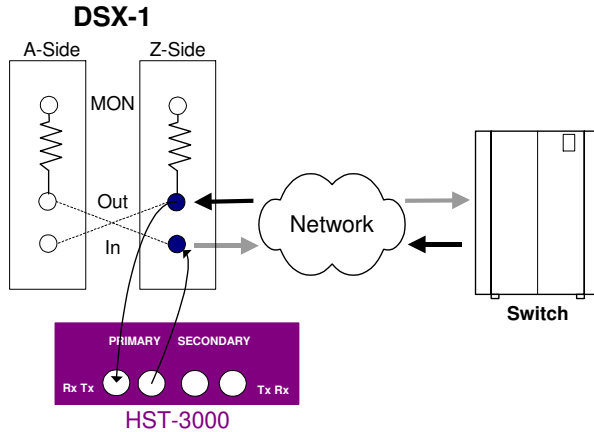

Figure 15 Single T1 terminate mode connection
- 9 Connect the HST-3000 to the test access point (see Figure 15):